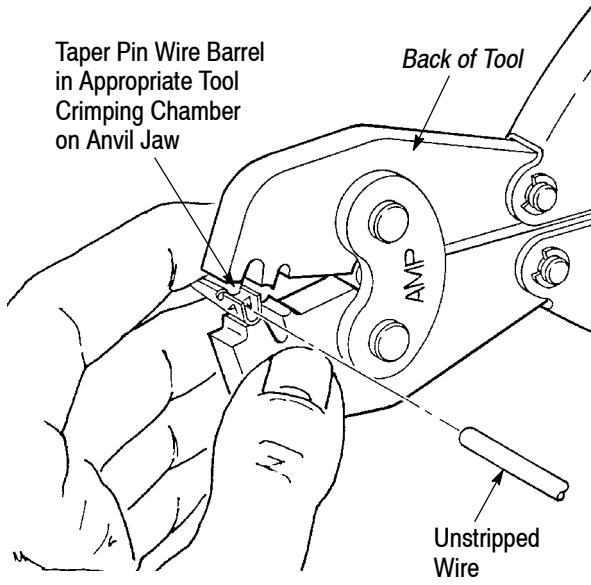

Figure 3
2. Center wire barrel of taper pin in the appropriate crimping chamber on the anvil jaw of the tool. See Figure 3.